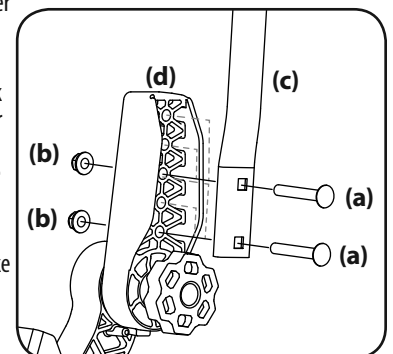

Figure 7
- Remove the two carriage screws (a) and two flange lock nuts (b) that secure the lapbar drive control lever (c) to the upper handle adjuster (d). See Figure 7.
- Move the lapbar drive control lever into one of the three available heights and secure in place with the carriage screws and flange lock nuts. See Figure 7.